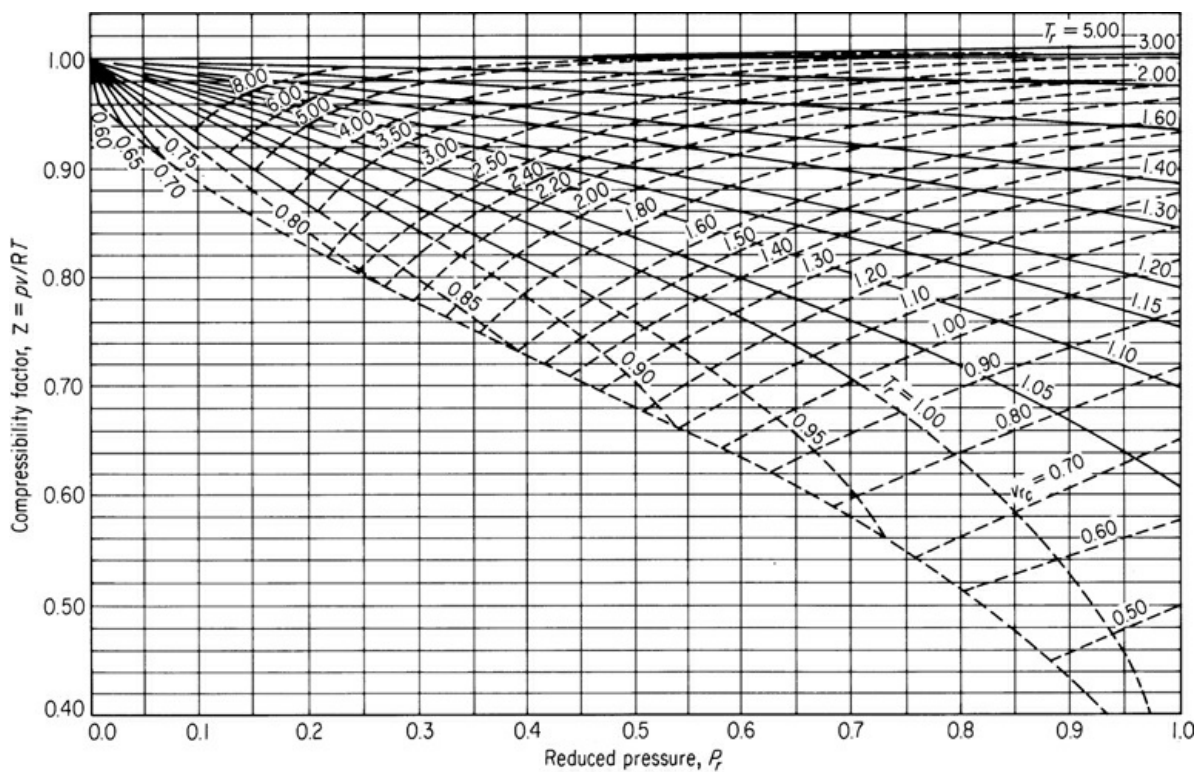
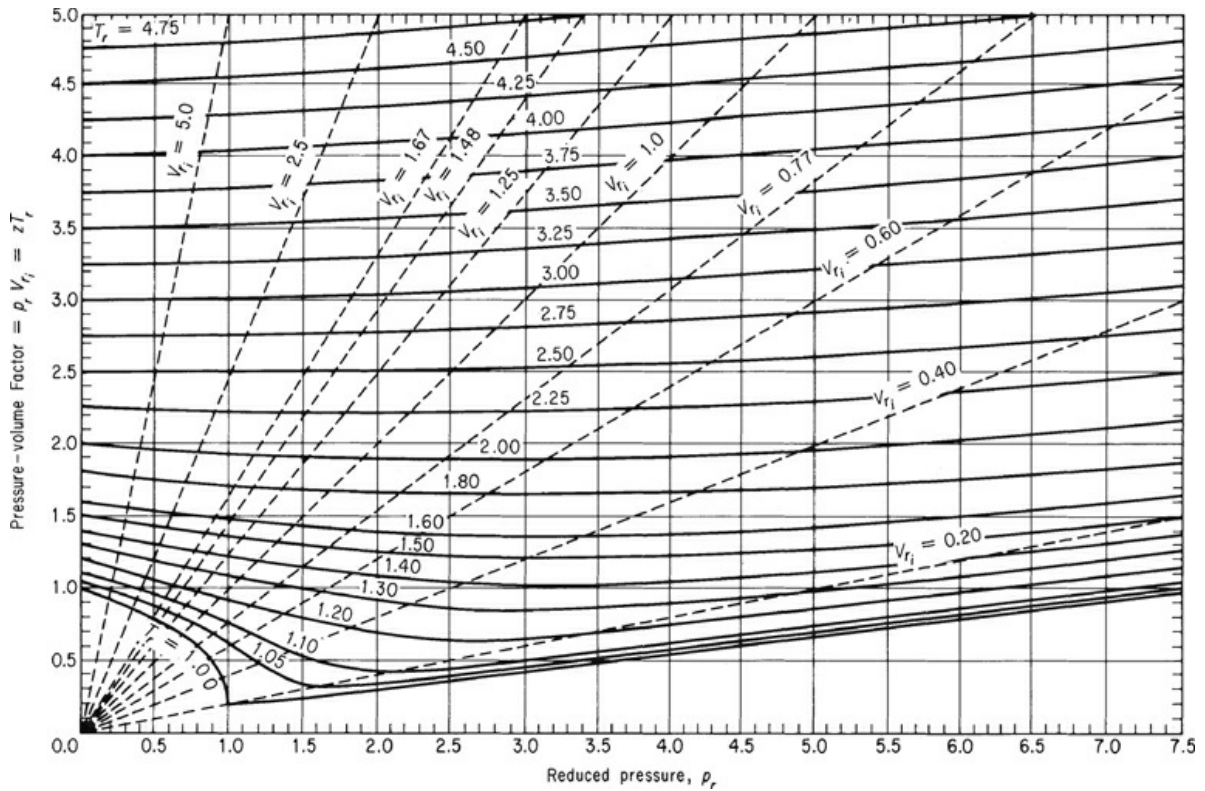

Figure 6.9a Generalized compressibility chart for lower pressures showing z as a function of p_r , T_r , and \hat{V}_{ri} .
Figure 6.9b Generalized compressibility chart for higher values of p_r
Figures 6.9a and 6.9b show two examples of the **generalized compressibility factor** charts prepared by Nelson and Obert.³ These charts are based on data for 30 nonpolar gases, including light hydrocarbons, CO_2 and N_2 . Figure 6.9a represents z for 26 gases (excluding H_2 , He, NH_3 , and H_2O) with a maximum deviation of 1% for z values greater than 0.6 and H_2 and H_2O within a deviation of 1.5%. Figure 6.9b is for nine gases, and errors can be as high as 5%. Note that the vertical axis in Figure 6.9b is not z but zT_r . To use the charts for H_2 and He (only), make corrections to the actual constants to get **pseudocritical** constants as follows:
Then you can use Figures 6.9a and 6.9b for these two gases using the pseudocritical constants as replacements for their true values.
1. What is in the blank region in Figure 6.9a below the curves for T_r and \hat{V}_{ri} ? The blank region corresponds to a different phase: a liquid.
From the Nelson and Obert (N&O) chart, Figure 6.9a, you can read $z \approx 0.855$. The value may be somewhat in error because ammonia was not one of the gases included in the preparation of the figure. Rather than calculating the specific volume directly, let's calculate it from the ratio of $pV_{\text{real}} = z_{\text{real}}nRT$ to $pV_{\text{ideal}} = z_{\text{ideal}}nRT$, the net result of which is
From the N&O chart (Figure 6.9b) you can read